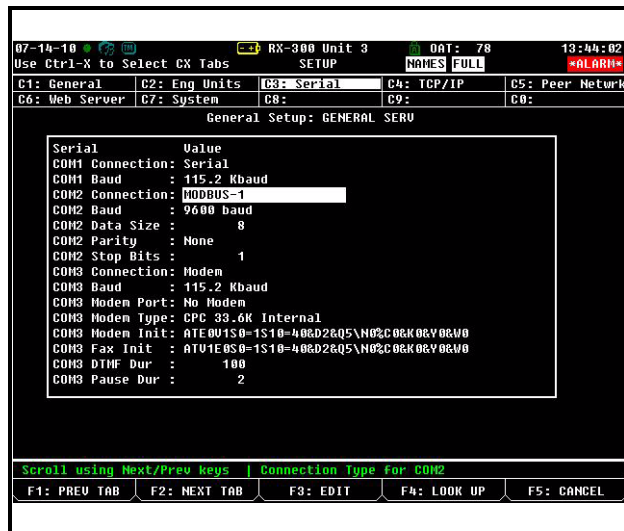

Figure 3-7 - Serial Communications Manager Screen
2. **Verify MODBUS Port Setup** - Press **Alt + M** on the E2 front panel. Verify COM2, COM4, or COM6 is set up as a MODBUS port. If so, verify that the MODBUS cable is connected to the proper connectors. Verify the COM port fields (*Figure 3-7*) are properly set for ECT MODBUS (9600 baud, data size=8 bits, Parity=NONE, stop bits=1).